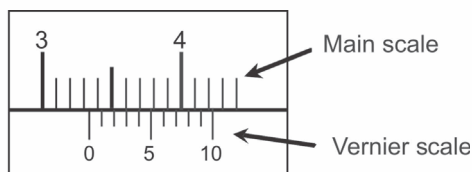

Fig. 2.7: Reading a main scale and vernier scale.
3.3 cm and 3.4 cm, as shown in Fig. 2.7, then the thickness of the block is more than 3.3 cm (called the main scale reading), but less than 3.4 cm. You can find out how much more it is than 3.3 cm by noting the division on the VS that coincides with an MS division. If the fourth division on the VS coincides with a MS division, the thickness of the block would be $3.3 \text{ cm} + 4 \times 0.01 \text{ cm} = 3.34 \text{ cm}$.